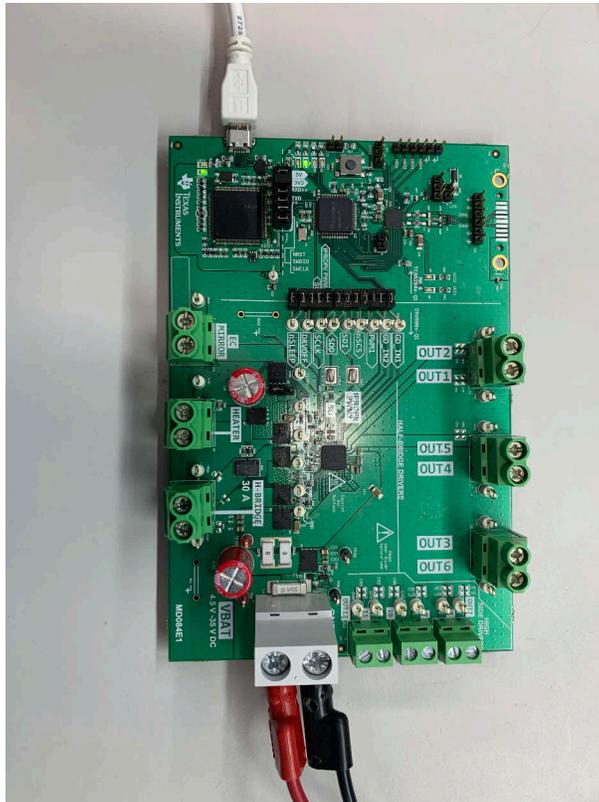

Figure 2-5. Hardware Setup
5. Set up is now complete. See Figure 2-5 for setup image.